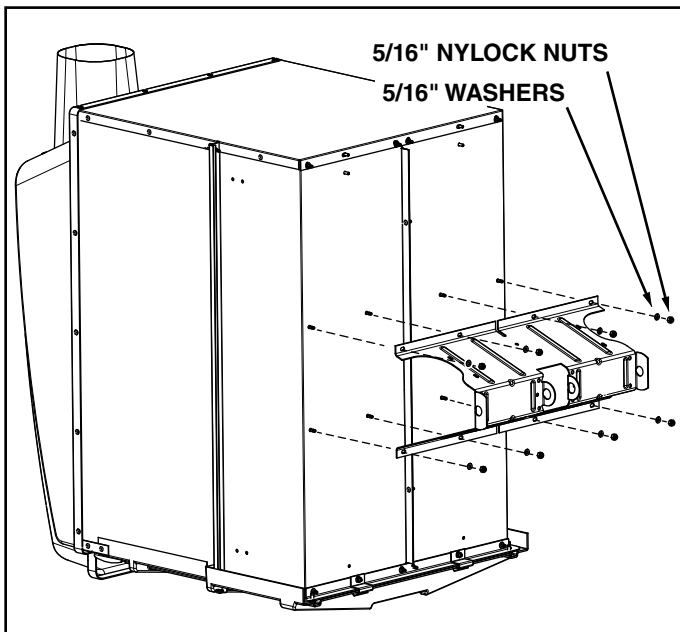

FIGURE 1
1. Tip the cart back to rest upright on the rear of the cart. See figure 1.
2. Attach the wheel support to the cart using eight 5/16" nylock nuts and 5/16" washers. See figure 1.